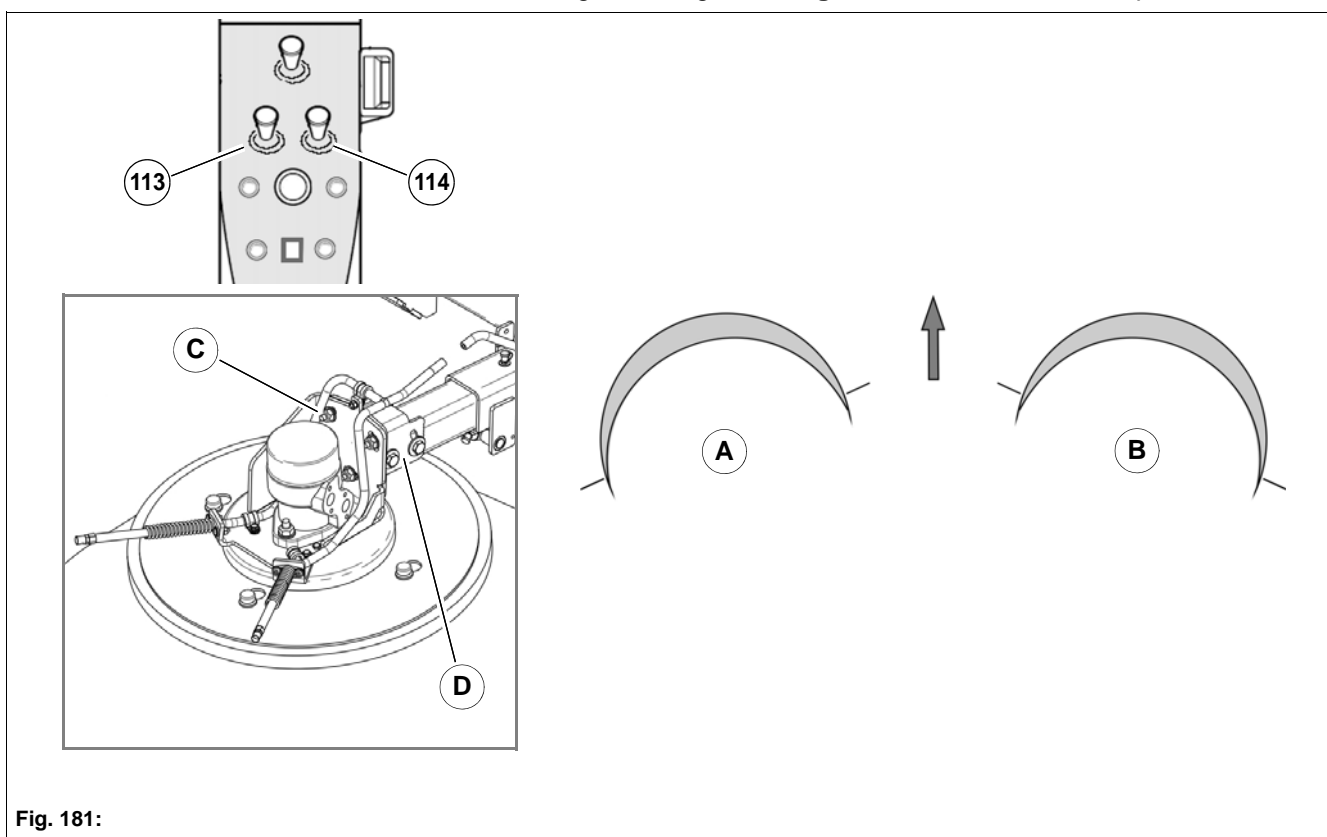

Fig. 181:
Check the sweeping level **Fig. 181-A and B** for the brushes at regular intervals. Maintenance intervals according to maintenance plan, see page 167.
The sweeping level **Fig. 181-A and B** is adjusted in the factory with the screws **Fig. 181-C and D**.
- The left rotating brush **Fig. 181-A** from 8 a.m. to 2 p.m.
- The right rotating brush **Fig. 181-B** from 10 a.m. to 4 p.m.